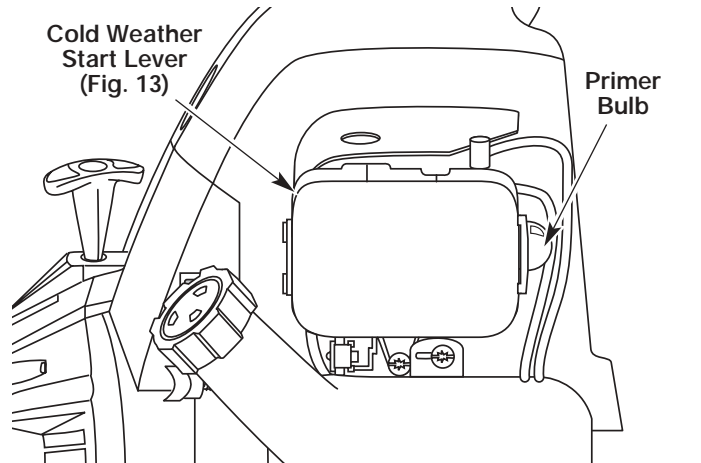

Fig. 11
4. Fully press and release the primer bulb 10 times, slowly, until **FUEL IS VISIBLE IN THE PRIMER BULB** (Fig. 11). If you can't see fuel in the bulb, press and release the bulb as many times as it takes before you can see fuel in it.